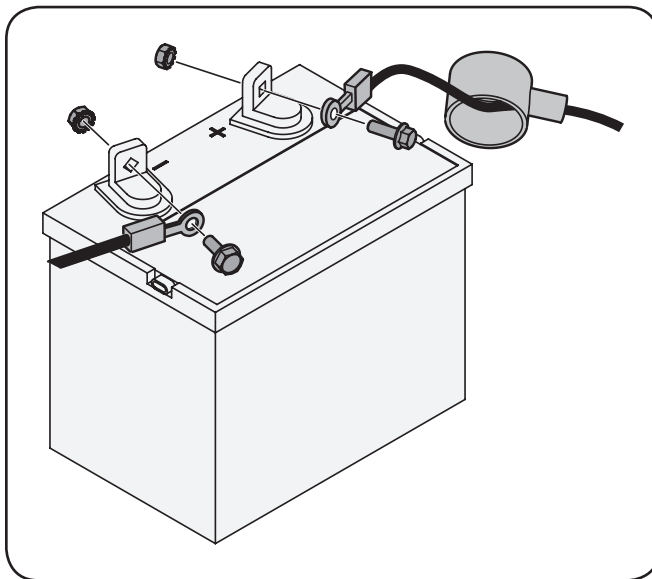

Figure 3-11
1. Remove the plastic cover, if present, from the positive battery terminal and attach the red cable to the positive battery terminal (+) with the bolt and hex nut. See Figure 3-11.
2. Remove the plastic cover, if present, from the negative battery terminal and attach the black cable to the negative battery terminal (-) with the bolt and hex nut. See Figure 3-11.